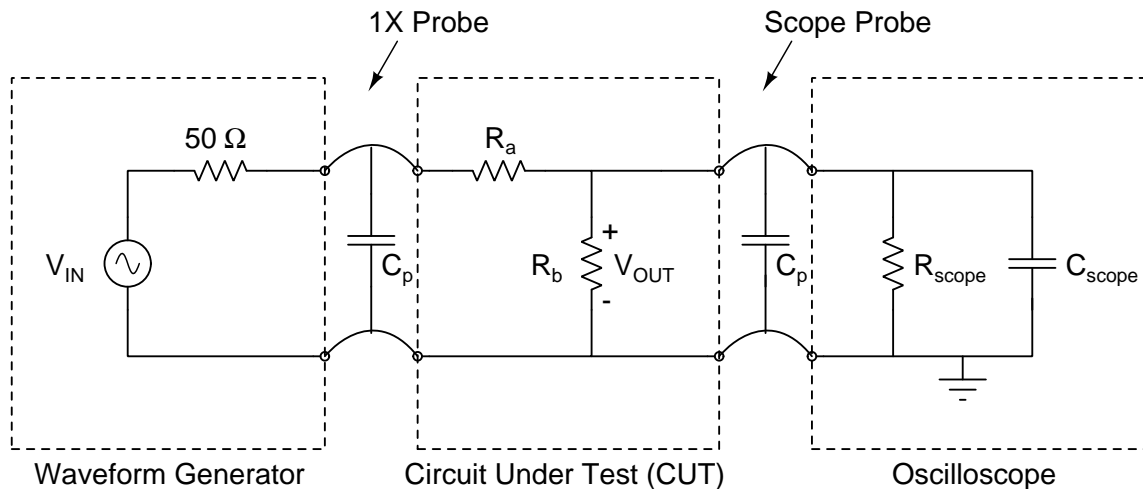

Figure 2: Measurement set-up for the resistor divider circuit.
This lab illustrates that the actual values of the components, and the impedances associated with the test equipment and cables, must be considered when determining the actual value of the voltage across a circuit element. All voltage sources, including batteries and waveform generators, have a finite source impedance. All measurement equipment, including oscilloscopes and digital volt meters (DVMs), have a finite input impedance that presents a load to the circuit. Cables that connect the circuit to the test equipment introduce additional impedances in the circuit. The schematic of the circuit under test (CUT) when connected to a waveform generator (WG) and oscilloscope (scope) is shown in Figure 2.
1. Use NGSpice to simulate the expected output voltage V_{OUT} as a function of the resistance R for the circuit of **Figure 2**. In the simulation, include the capacitance of each probe, the output resistance of the WG, and the input impedance of the scope. A Matlab® template file is available on the course website at: (https://davidkotecki.com/ECE214/docs/Matlab/ECE214_2021_Lab1_B.m).